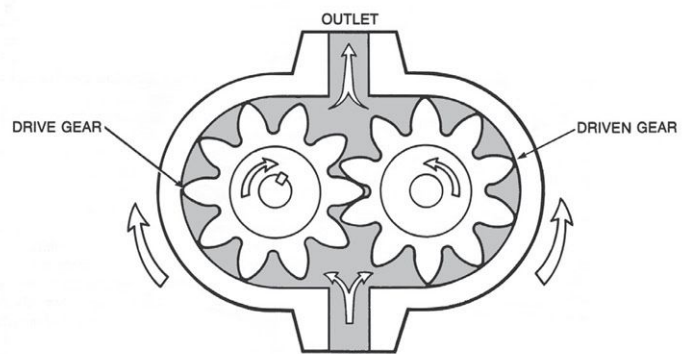

Figure 7 | Schematic of an external gear pump, the most widely used positive displacement machine.
**Gear pump:** In external gear pumps, the most widely used positive displacement machines, flow is produced by directing fluid around the perimeter of meshing gears (see Figure 7). We compared the average efficiencies of 16 external gear pumps from seven manufacturers, determined throughout the range of rated operating pressures and speeds. The average volumetric efficiency for the 16 pumps was greater at 50 C than at 80 C across the board (see Figure 8 on page 42), but